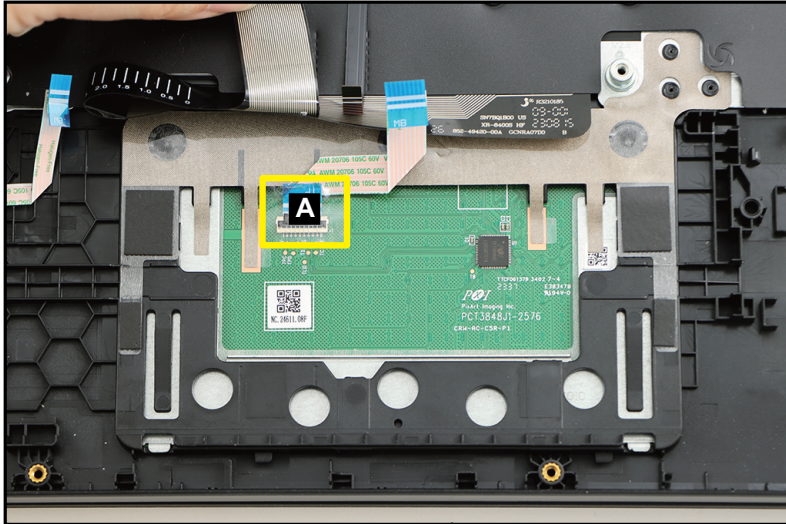

Figure 1-40. Touchpad Module Removal
2. Detach the mylar (A) securing the touchpad FFC connection (Figure 1-40).